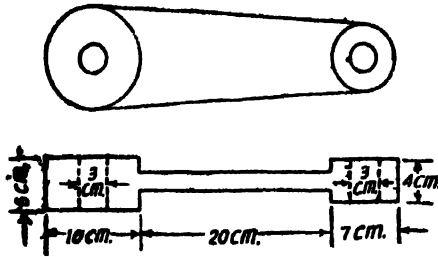

Fig. 9.11
1. A finished drawing of an iron crank is shown in the Fig. 9.11.